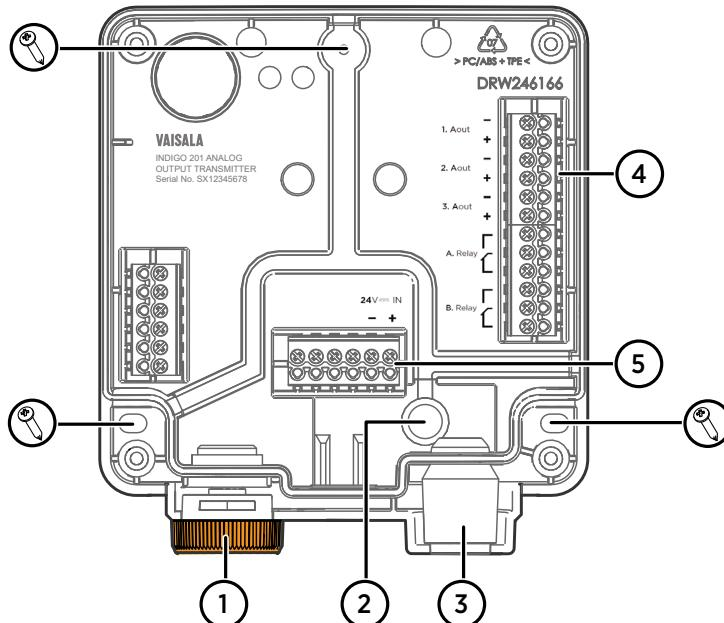

Figure 3 Indigo 201 transmitter base main parts and mounting screw positions
- 5. Place the transmitter base on the installation surface and mount it with 3 screws. See the screw positions in Figure 3 \(page 9\).